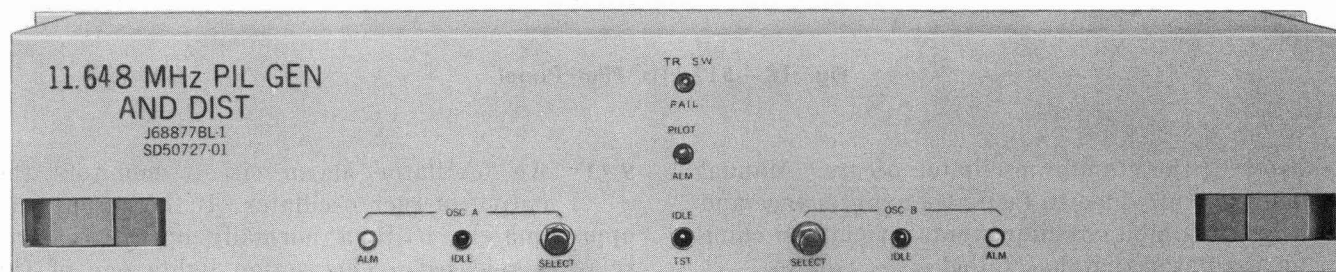

Fig. 20—11.648-MHz Pilot Panel
9.11 An oscillator alarm circuit monitors the output of each oscillator. If the output falls approximately 4 dB, a normally operated alarm relay is released. This action lights one of the alarm lamps on the generator panel (Fig. 20) and initiates an office alarm.